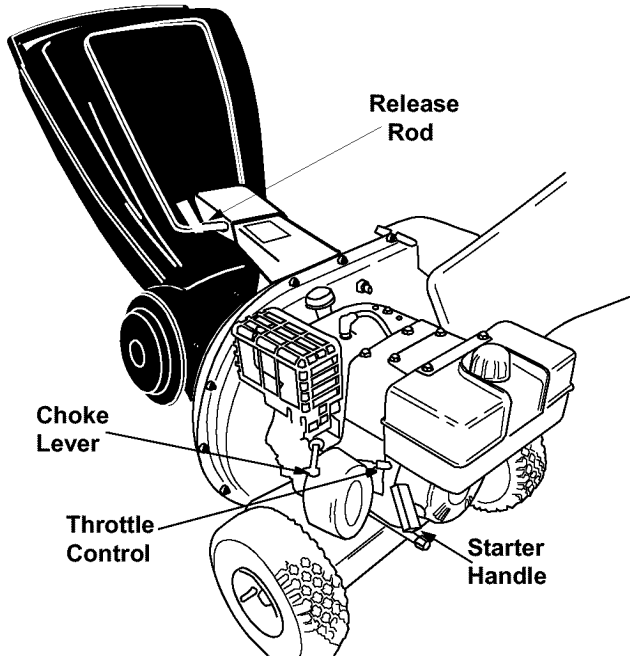

Figure 8
**Release Rod:** Used to release the hopper when raising or lowering. See Figure 8.